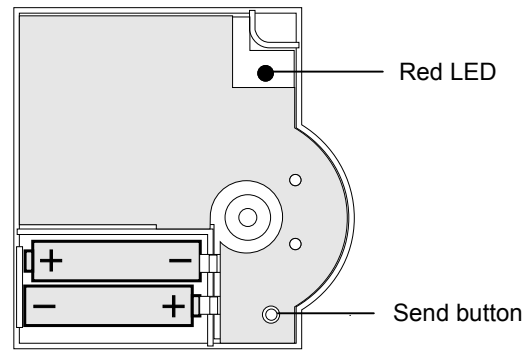

Fig. 12: Battery polarity and send button
- ▶ Insert the supplied AA batteries with the correct battery polarity (see Fig. 12).
- ▶ Insert the batteries with the right polarity into the battery compartment (see Fig. 12, Page 6).